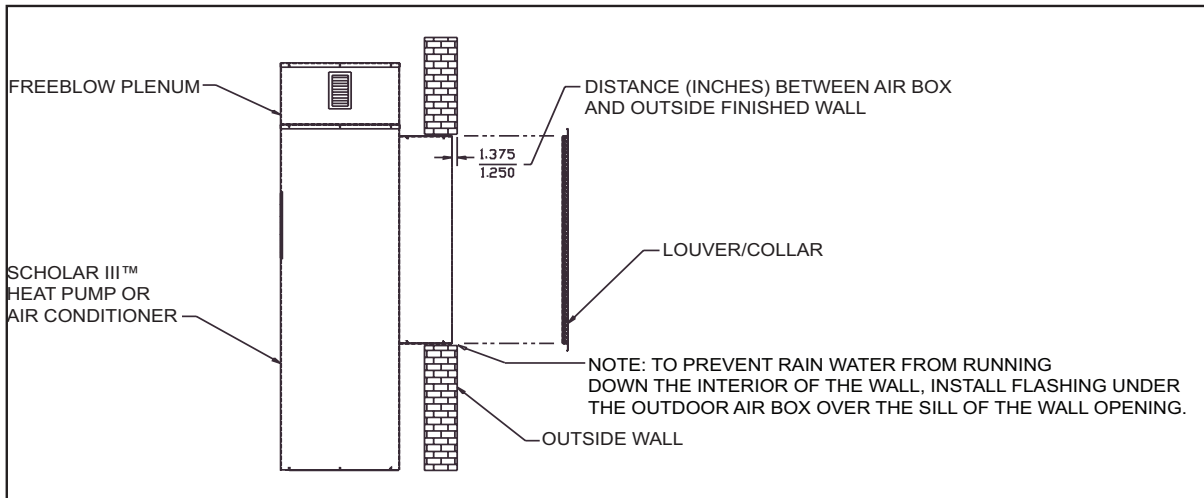

Figure 5. Dimension Between Scholar 2.0 Heat Pump or Air Conditioner Air Box and Finished Outside Wall for Outdoor Louver/Collar Assembly Installation
- B. Be sure that the power to the line voltage wiring is off prior to hooking-up the wiring within the Scholar 2.0 cabinet. Remove the lower front panel for access to the disconnect. Figure 5 illustrates the disconnect location with the lower front panel removed. Turn the disconnect to “OFF” position.
- 1. For Scholar 2.0 units with a remote (wall mounted) thermostat, route the low voltage wiring from the point of entry into the cabinet, upward through the raceway adjacent to the disconnect shown in Figure 5.